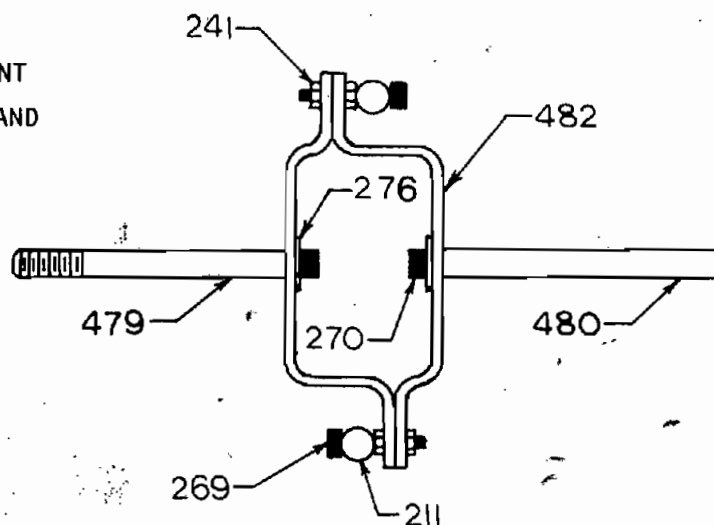

Figure 1
**STEP 1** Transverse Lever Assembly - see Figure 1